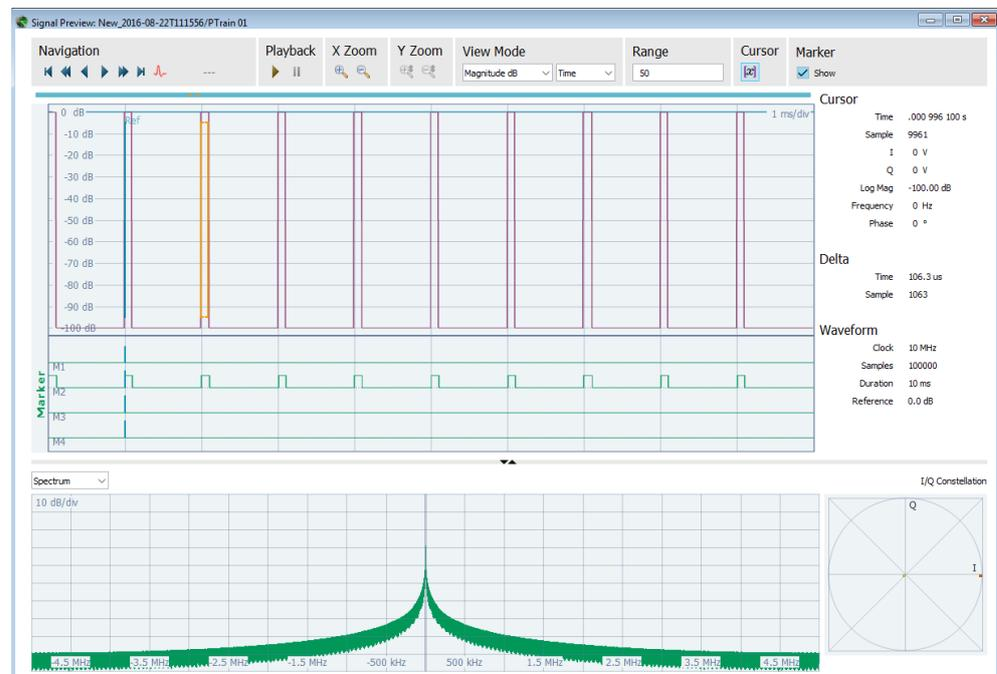

Figure 2-4: Signal Preview
7. Compare the signal spectrum with the spectrum on Figure 2-4.